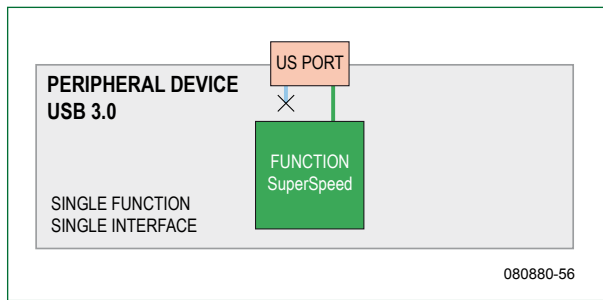

Figure 6. USB 3.0 peripheral device
- a peripheral with a single function and a single interface constitutes a *single device* (Figure 6 and Table 4).